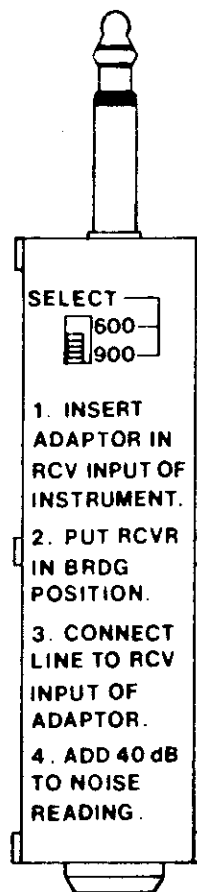

Figure 2. Noise-to-Ground Adapter
- (4) Set the TERM/BRGD switch to BRDG.
- (5) Set the TUNE toggle switch to 4 kHz.
- (6) The FLAT/WGTD switch may be used in either position. The FLAT position is useful in detecting low-frequency noise, such as power-line induction.
- (7) Plug the noise-to-ground adapter into the RECEIVE jack. (See figure 2.)